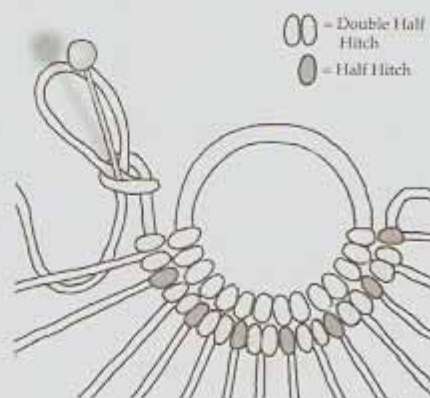

Fig. 2
1. Take one of the Color A cords (this will serve as your **AC** or Anchor Cord) and make a **SLK** (Slip Knot) approx. 2-3" from one end. Pin the cord through the knot onto the board directly to the left of the first warp cord. **Warp cords** will refer to all of the cords that radiate outward from the jump ring like the spokes of a wheel (see Figure 2).
Repeat this pattern: 1st cord - **DHH** (Double Half Hitch), 2nd cord - **HH** (Half Hitch), 3rd cord - **DHH**, 4th cord - **HH**, etc. (see Figure 2).